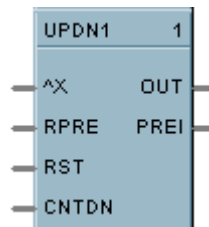

**Figure 90 TRIG function block example**
Figure 90 shows a Function Block Diagram using a TRIG function block. An OFF delay timer block output is ON as long as the RST input is logic HI (ON). It can be used for time duration but must be triggered by an ON to OFF transition on the Reset input. This can be accomplished using **Trigger blocks (TRIG)** to create one-shot pulses which last one scan cycle. The fast logic trigger pulse will last 100 ms, while the normal logic trigger pulse will last the complete scan cycle for analog blocks. Use according to application need. A Periodic timer output pulse may also be used to start the timer for the OFF delay.